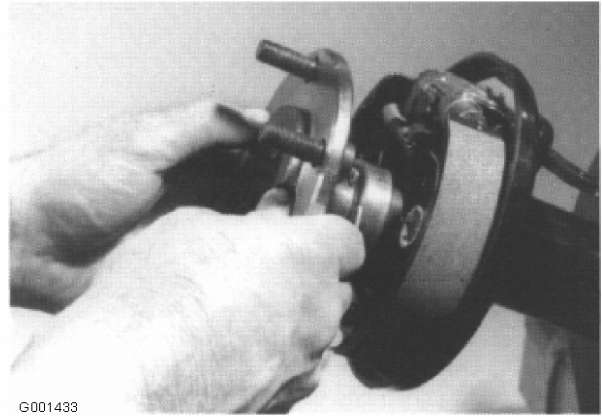

Figure 5
2. Remove the axle shaft from the tube (Figure 5).